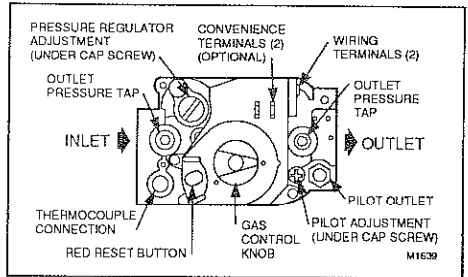

Fig. 4—Top view of gas control.
6. Connect pipe to gas control inlet and outlet. Use wrench on the square ends of the gas control. If an adapter is used, place wrench on adapter rather than gas control. Refer to Figs. 4 and 5.
3. Unscrew compression fitting from the pilot outlet (Fig. 4). Slip the compression fitting over the tubing and slide out of the way.